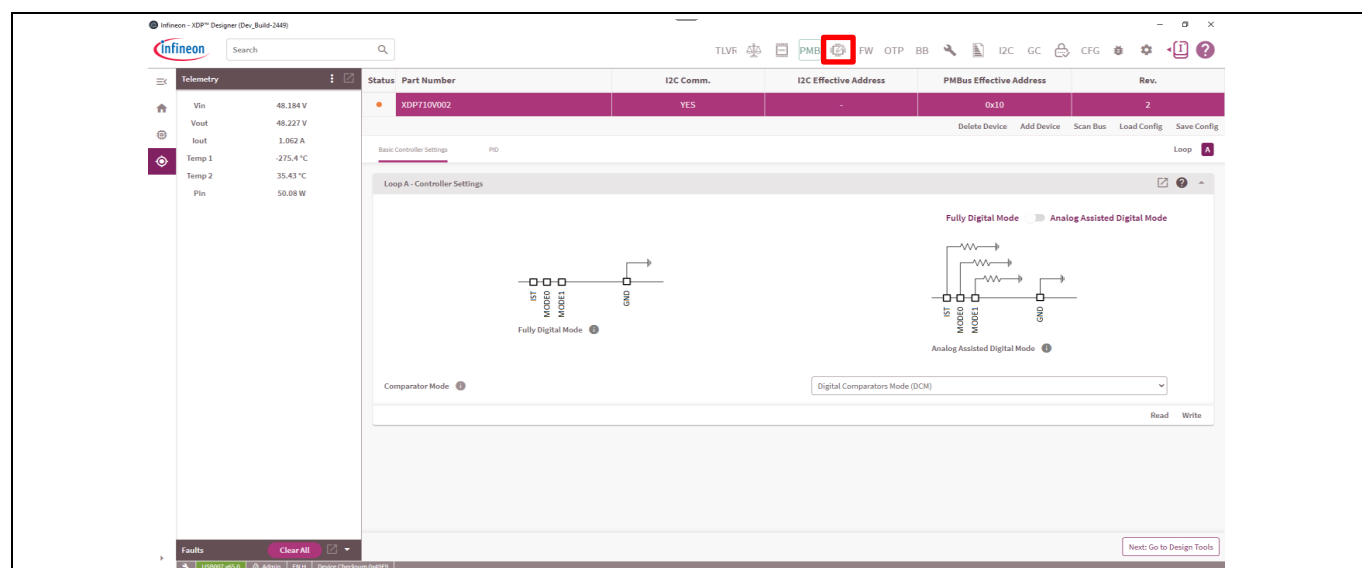

Figure 39 Programming tab
2. Click on the button highlighted in red in Figure 39.